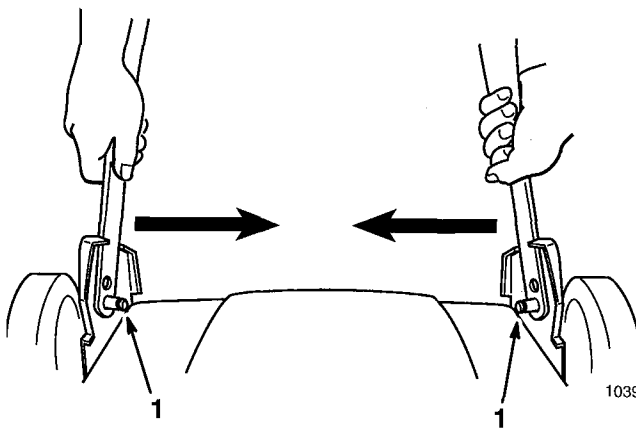

Figure 14
1. Squeeze bottom handle sections together and slide off handle pins (Fig. 14).